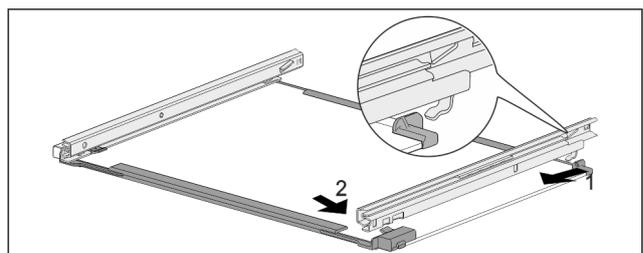

Fig. 181 Glass shelf with rails
- ▶ Hook in rail at the back. Fig. 181 (1)
- ▶ Hook in rail at the front. Fig. 181 (2)